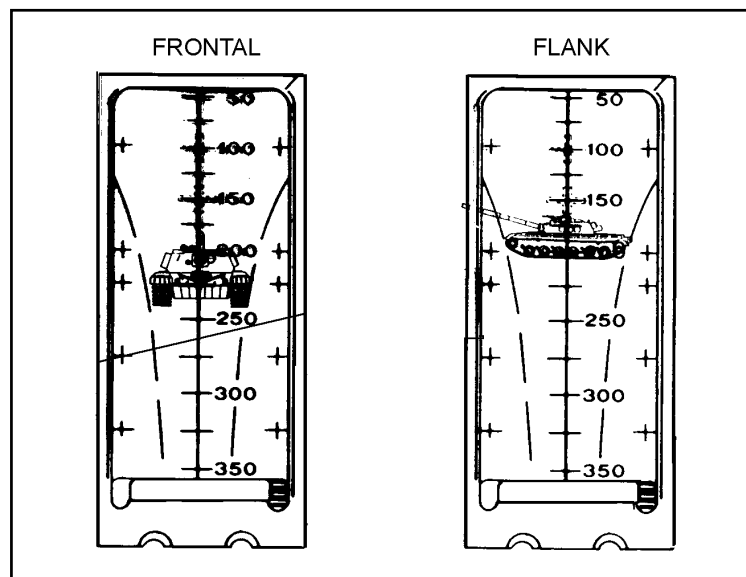
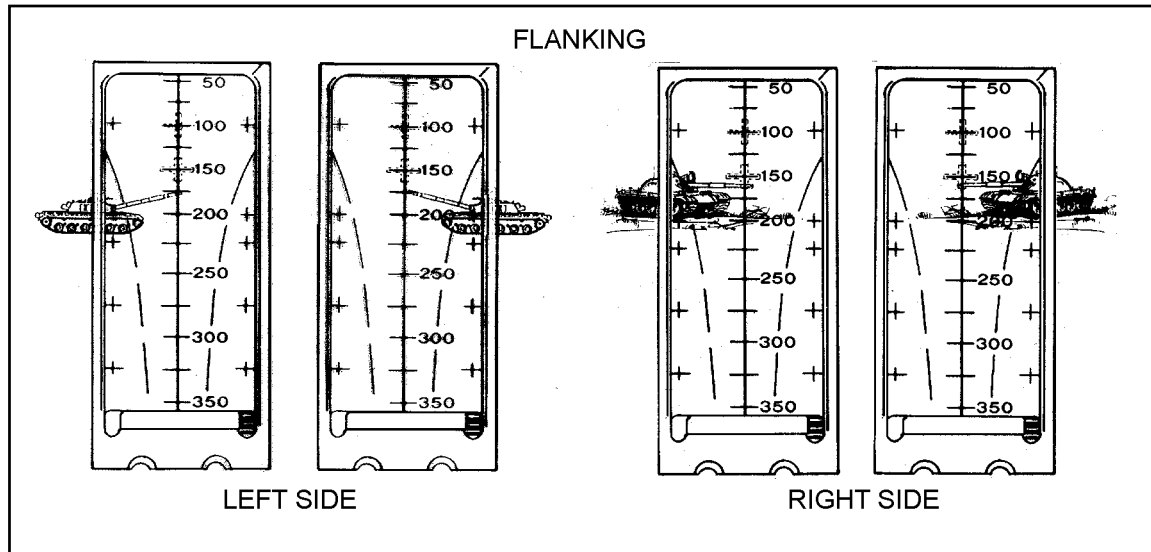
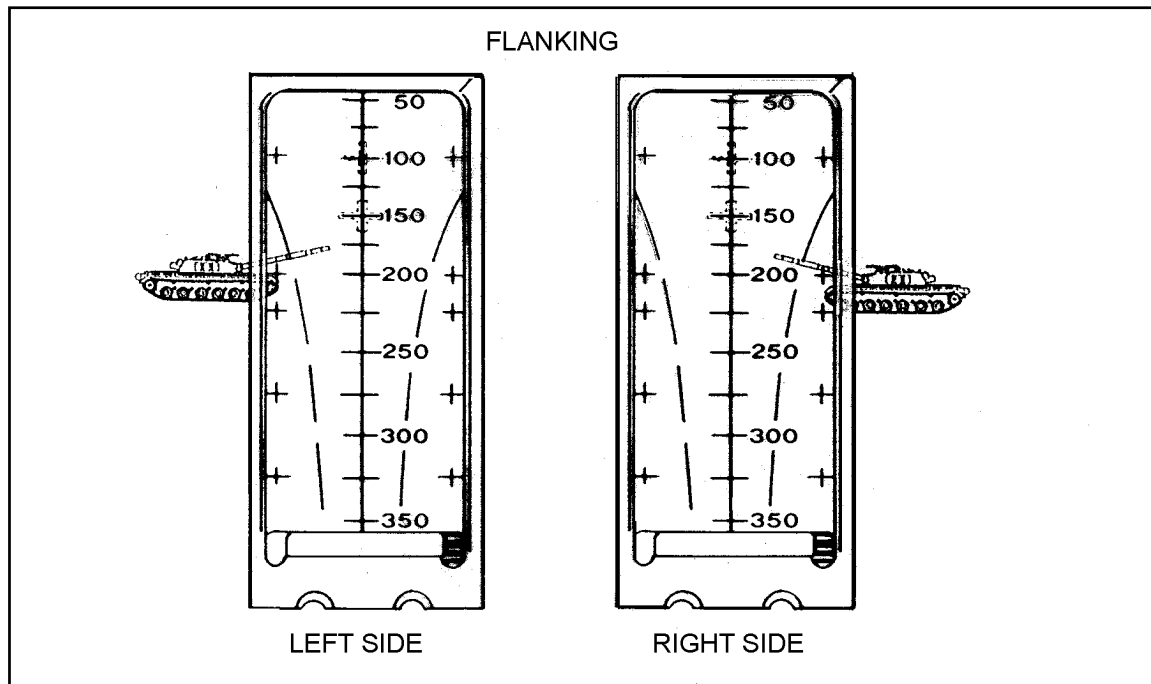

Figure 4-5. Sight picture, stationary targets, M72-series LAW.
Figure 4-6. Sight picture, slow-moving targets, M72-series LAW.
Figure 4-7. Sight picture, fast-moving targets, M72-series LAW.
(1) *M72-Series LAW.* *Stationary targets* include those moving directly toward or away from the firer. Place the correct vertical range line in the center of the target (Figure 4-5). *Slow-moving targets* include those with an estimated speed of 5 mph or slower, or those moving in an oblique direction. Place either the left or right lead cross mark on the vehicle's center of mass (Figure 4-6). *Fast-moving targets* include those with an estimated speed of more than 5 mph. Place either the left or right lead cross mark on the leading edge of the vehicle (Figure 4-7).